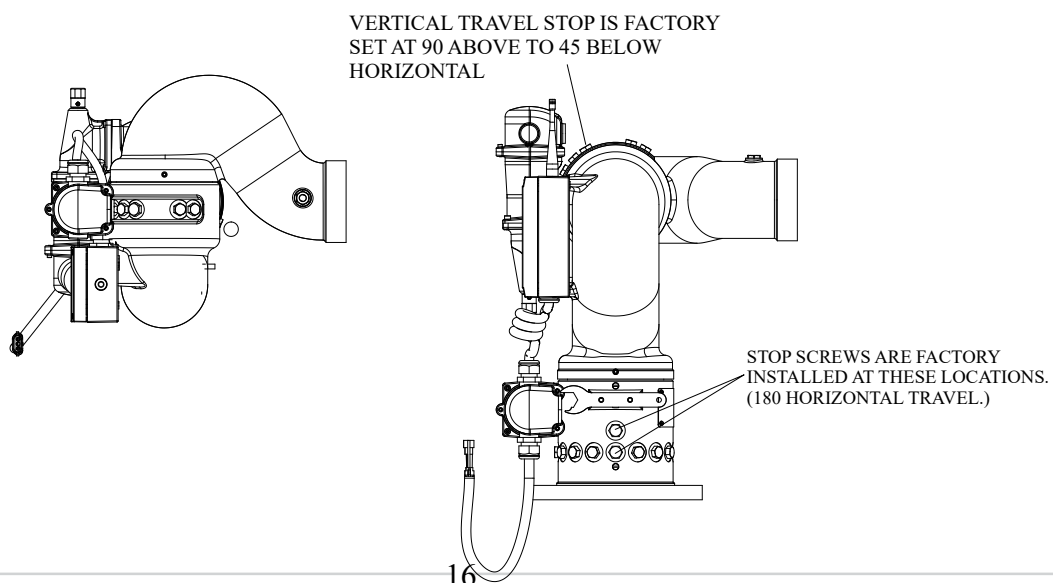

Figure 4: Scorpion RF Rotational Stops
- The rotational stop screws (see Figure 4) set the monitor rotational limits (left-right and up-down) to satisfy the application requirements, as well as NFPA* requirements. The monitor is shipped from the factory with the horizontal travel limits set at 90 degrees left and 90 degrees right of the zero (straight ahead) position. The vertical travel limits are factory set at 90 degrees above, and 45 degrees below horizontal. If the application requires the rotation limits to be changed, relocate threaded stop screws to required positions per chart below. Apply Loctite 242 or equivalent to stop screws and hex head plugs prior to reinstalling (stop screw holes are identified on the monitor by a stamped letter adjacent to each hole). All empty stop screw holes should be filled with a hex head plug.
- The rotational stop screws (see Figure 4) set the monitor rotational limits (left-right and up-down) to satisfy the application requirements, as well as NFPA* requirements. The monitor is shipped from the factory with the horizontal travel limits set at 90 degrees left and 90 degrees right of the zero (straight ahead) position. The vertical travel limits are factory set at 90 degrees above, and 45 degrees below horizontal. If the application requires the rotation limits to be changed, relocate threaded stop screws to required positions per chart below. Apply Loctite 242 or equivalent to stop screws and hex head plugs prior to reinstalling (stop screw holes are identified on drawing 98031050). All empty stop screw holes should be filled with a hex head plug